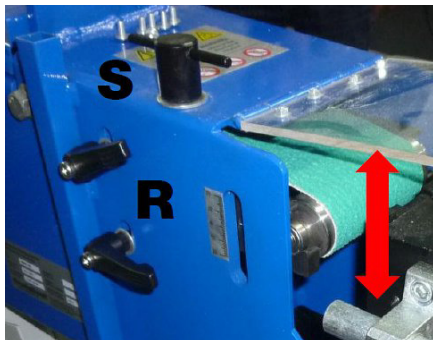

Fig. 14: Height adjustment
Step 2: Loosen the two clamping levers R (Fig. 14).
Step 3: Adjust the height of the contact roller with the adjusting screw S (Fig. 14). When lowering the contact roller, if necessary, press it down with your hand. The position of the contact roller (-20 mm - 0 mm - +20 mm) can be read on the scale.